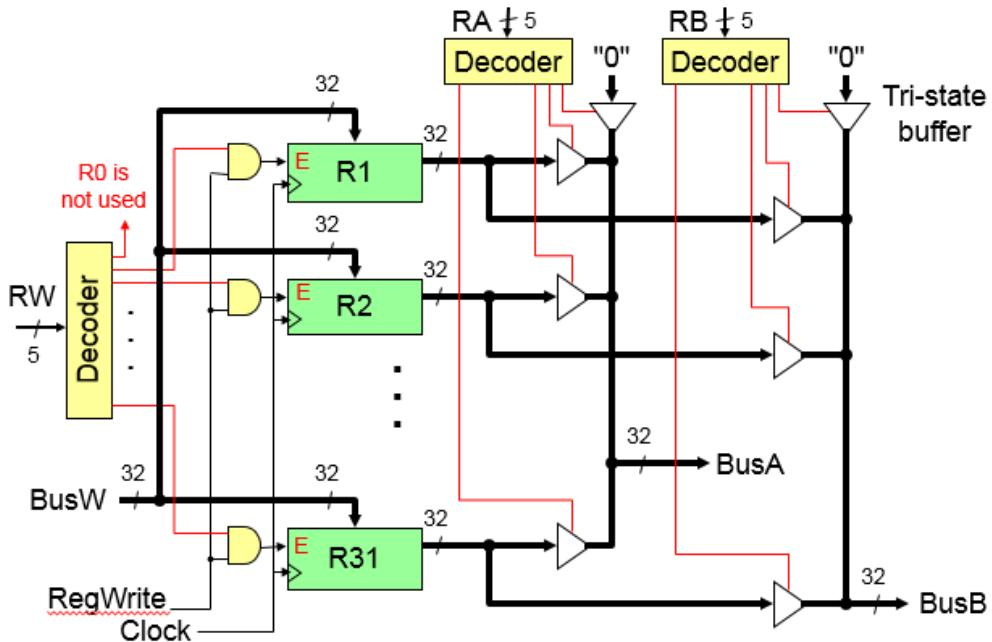

Figure 11.2: 32x32-bit register file design.
The 32 x 32-bit register file design is given in Figure 11.2. It should be observed that register 0 is a constant. Each of BusA and BusB is connected to 32 tri-state buffers. Each tri-state buffer is connected to one of the 32 registers. The tri-state buffers enable signals are driven by the outputs of two 5x32 decoders, one with Ra input and the other with Rb input, to select which register puts its value on the corresponding bus. The enable signals of the 31 registers (register 1 to 31) are anded with the output of a 5x32 decoder and RegWrite signal. The 5x32 decoder input is connected to RW to select which register should be written.
- Model the 32x32-bit register file given in Figure 11.2 as one single module in Logisim